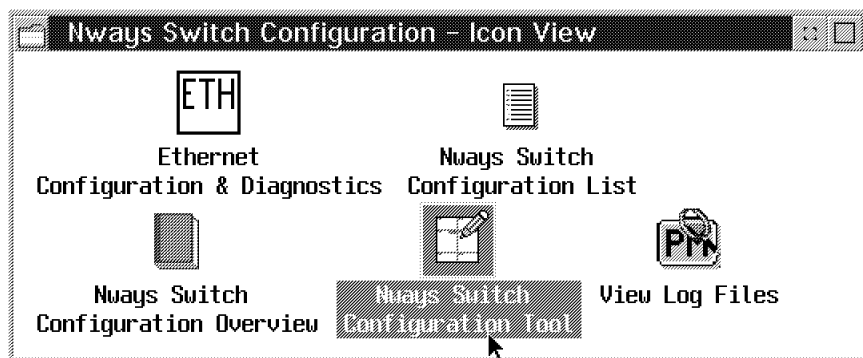

Figure 7. N Ways Switch Configuration -Icon view.
- \_\_\_ 6. Close the *NWays Switch Configuration -Icon View* (Figure 7 on page 9.)